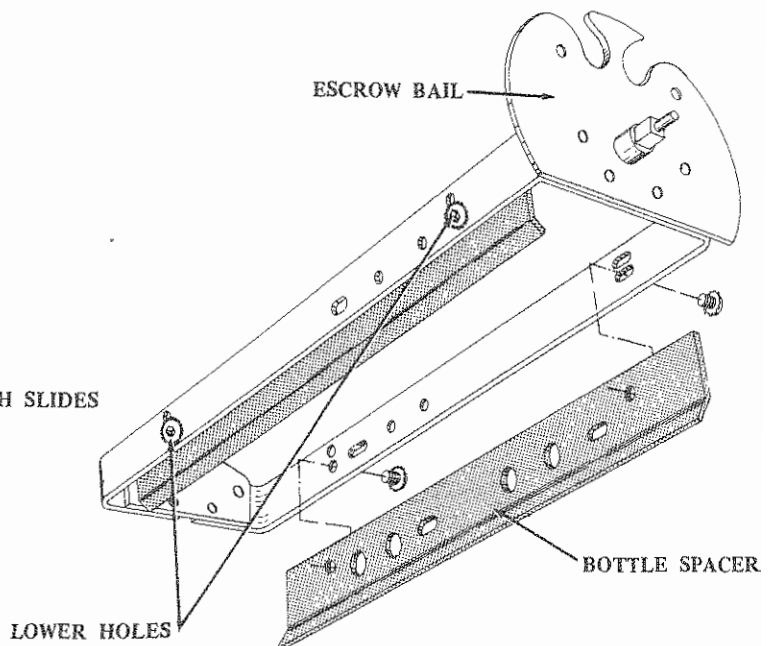

Figure 21
4. Install bail spacer bars on escrow bails using shorter screws. The spacer bars are to attach through the lower two holes in the escrow bails using shorter screws. The bend of the spacer bars should angle inward at bottom of escrow bail. (See Figure 21).